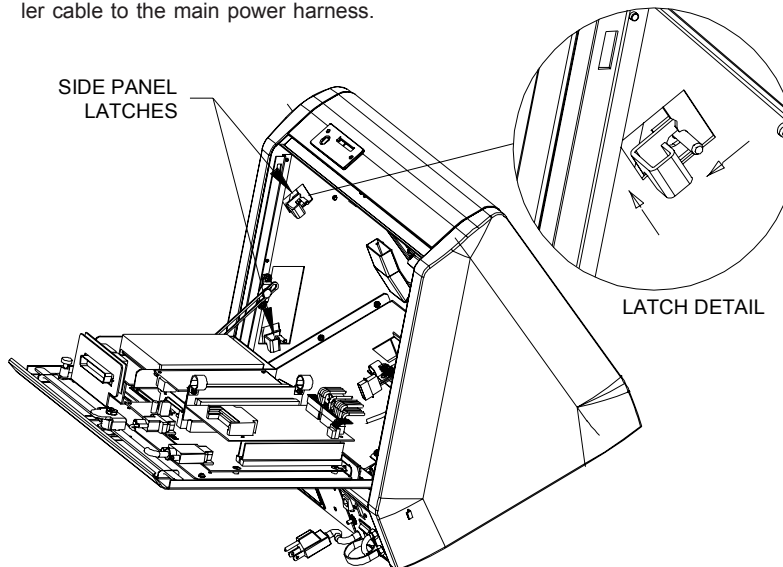

FIGURE 6 - FORCE ELITE - SIDE PANEL LATCH ACCESS
5. Inside the game, access the latches for each side panel and remove both panels (see Figure 6).